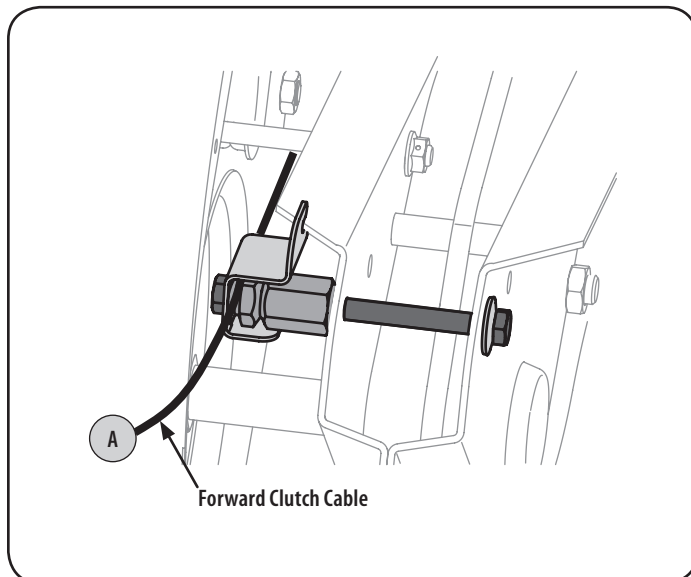

Figure 1
1. Identify the forward clutch cable (A). See Figure 1.